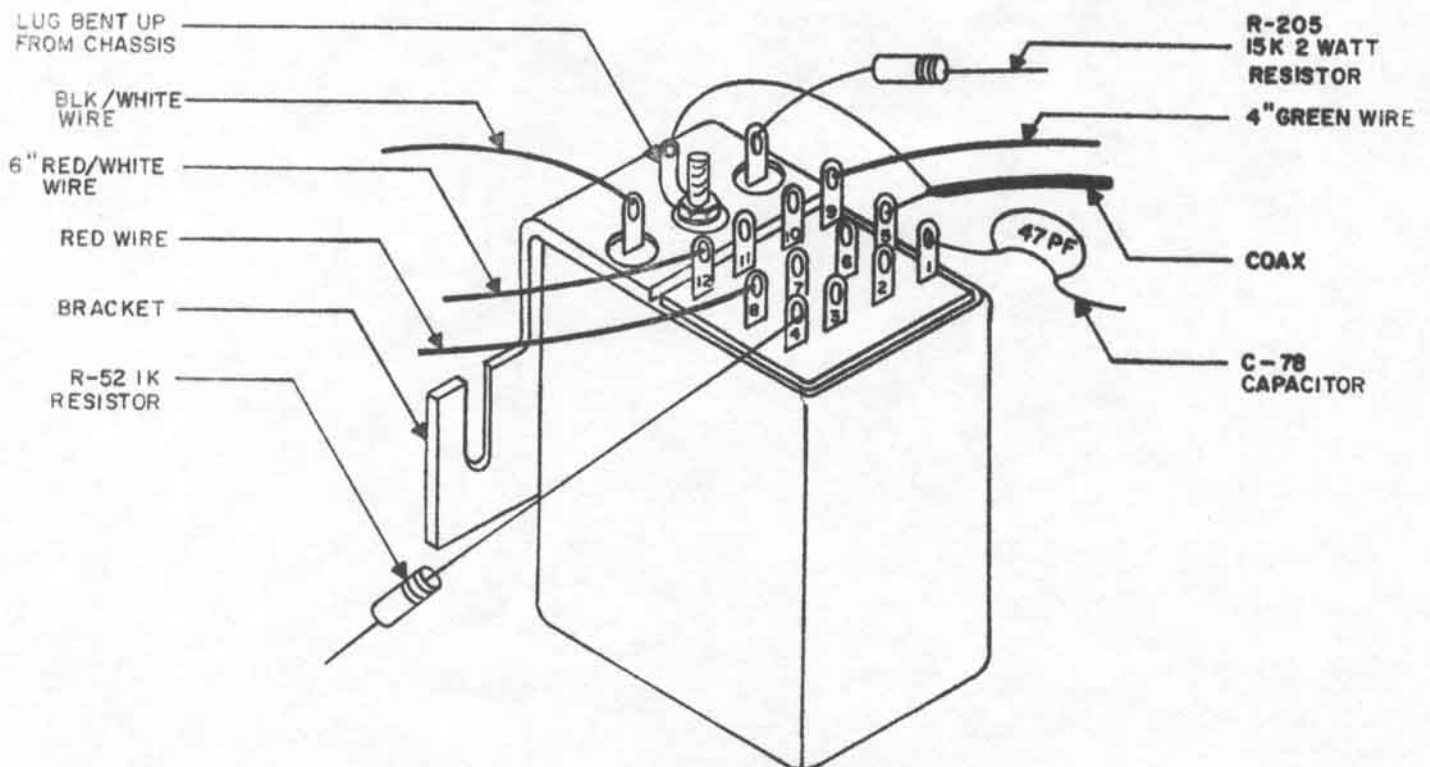

FIGURE 2. PICTORIAL WIRING DIAGRAM, K201 RELAY, HQ-170 SERIES
- If in any doubt check figures 2 and 4 or schematic diagram figure #5.